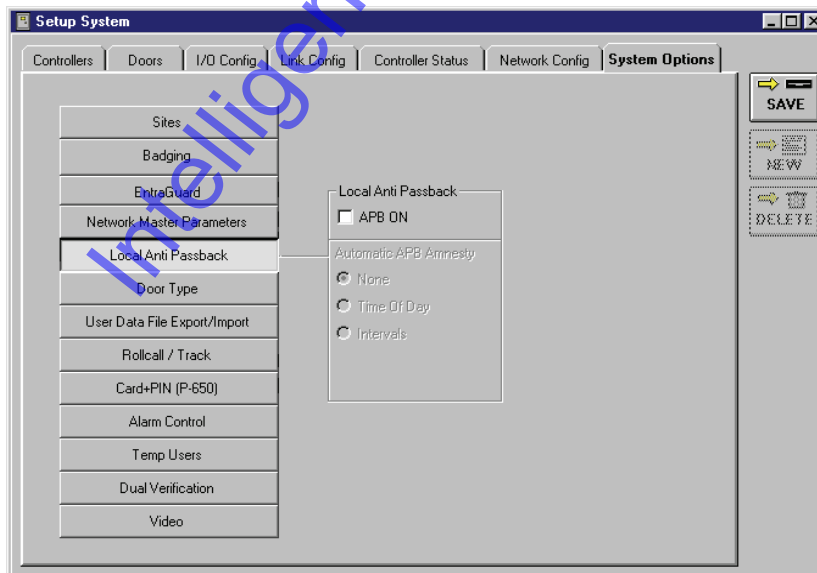

Figure 2-8: Local Anti Passback Field
1. From the System Options tab, click on the  button. The System Options window will reveal the Local Anti Passback field where the APB options are set (see Figure 2-8).
- If APB is not required in your application, verify there is **not** a check mark in the APB ON box. This is the default value (see Figure 2-8 on page 13 of this section).